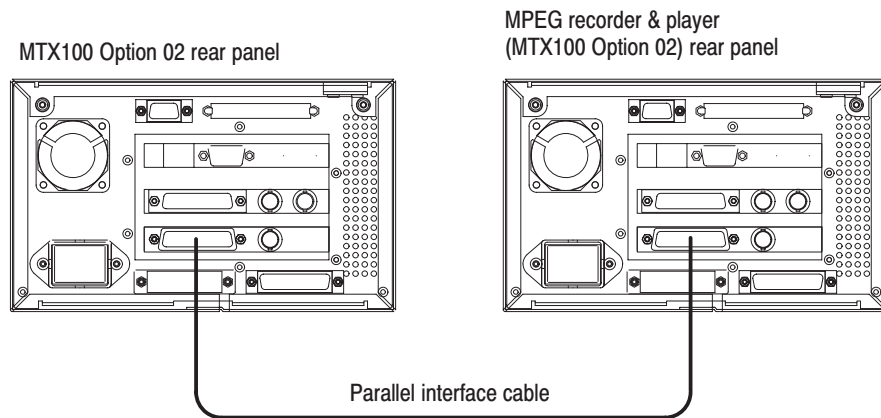

Figure 4-11: Second equipment connection for verifying the Universal parallel/serial interface
1. Use the parallel interface cable to connect the UNIVERSAL IN/OUT connector on the MTX100 Option 02 to the UNIVERSAL IN/OUT connector on the MPEG recorder & player as shown in Figure 4-11.